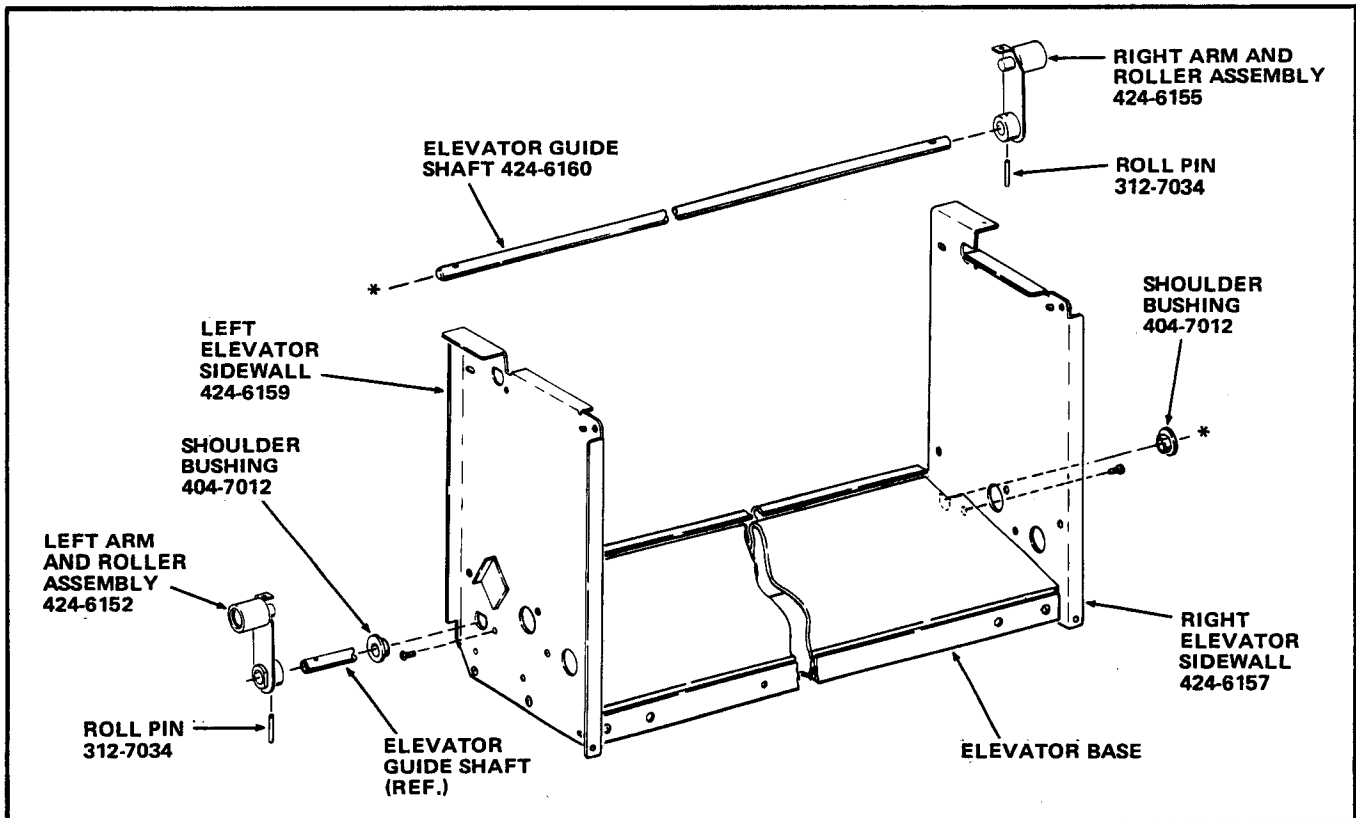

FIGURE 3
1. Attach the Elevator Base to the Left and Right Elevator Sidewalls included in the kit, part numbers 424-6159 and 424-6157, using the two Screws removed in Step A-12. See Figure 3.
2. Insert the two Shoulder Bushings included in the kit, part number 404-7012, in the lower bushing cut-outs of the Elevator Sidewalls as shown in Figure 3.
3. Using a 1/8" Pin Punch, attach the Right Arm and Roller Assembly, part number 424-6155, to the Elevator Guide Shaft, part number 424-6160, with one Roll Pin, part number 312-7034. All parts are included in the kit. See Figure 3.
4. Insert the Elevator Guide Shaft through the two Shoulder Bushings which were installed in the Elevator Sidewalls in Step B-2. See Figure 3.
5. Attach the Left Arm and Roller Assembly, part number 424-6152, to the Elevator Guide Shaft with one of the Roll Pins, part number 312-7034. Both parts included in kit. See Figure 3.